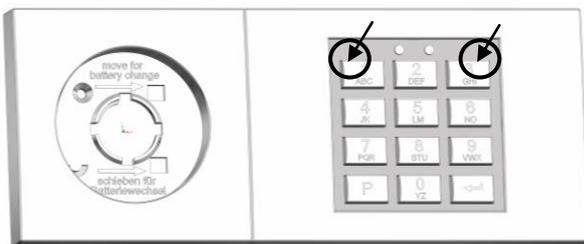
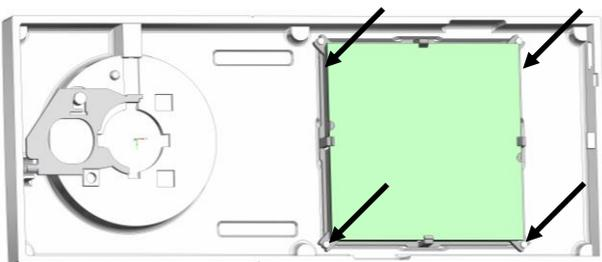

Figure 39: Dismounting the keypad sub-assembly, to do so, carefully apply pressure to the upper part of the keypad frame
Figure 42: Mounting the keypad sub-assembly
To do so, first the keypad sub-assembly must be removed from the top part of the operating unit (8). This is done by carefully applying pressure to the areas shown in Figure 39 (do not use force or sharp-edged tools or the like). This will remove the sub-assembly from its top holders. Next, remove the keypad unit carefully from its bottom holders (see Figures 42 and 43) and then take it out of the top part of the operating unit (8) toward the back, if possible, without tilting or deforming the holding clamps.
Now rotate the keypad sub-assembly as indicated in Table 12 and insert it again into the holders of the top part of the input unit (see Figure 42) and press it carefully inside as far as it will go (do not apply force).